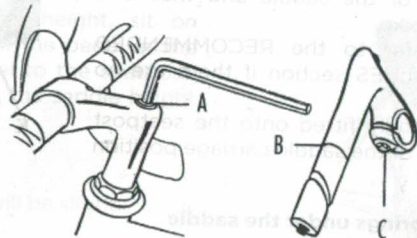

Fig. 1
4.3 - 1: Adjusting a quill stem (fig.1)
► Loosen the screw of the expander (A) 2 turns counter clockwise using an Allen key.